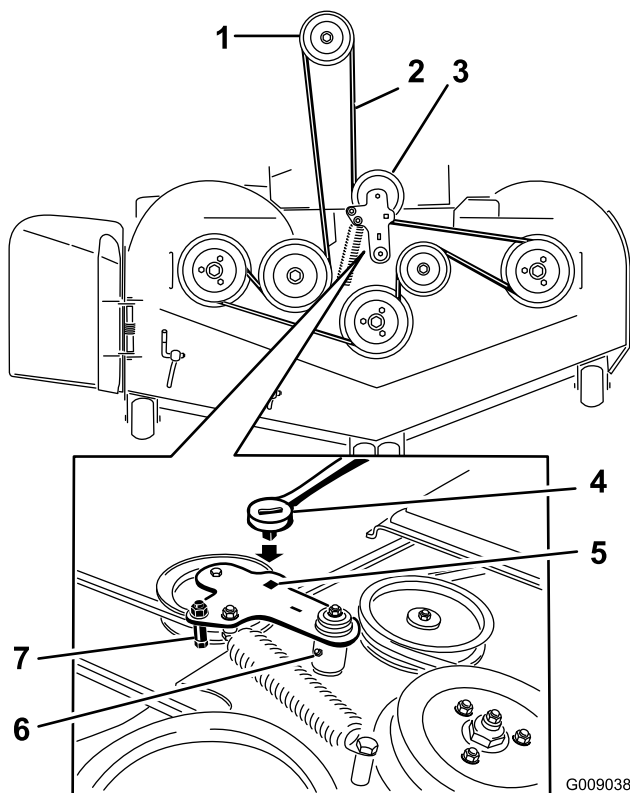

Figure 82
5. Use a ratchet in the square hole in the idler arm to remove tension on the idler spring (Figure 82).
7. Remove the belt guide on the spring loaded idler arm shown in Figure 82.
9. Install the new belt around the mower pulleys and the clutch pulley under the engine (Figure 82).
10. Install the belt guide on the idler arm shown in Figure 82.
11. Using the ratchet in the square hole, install the idler spring (Figure 82).